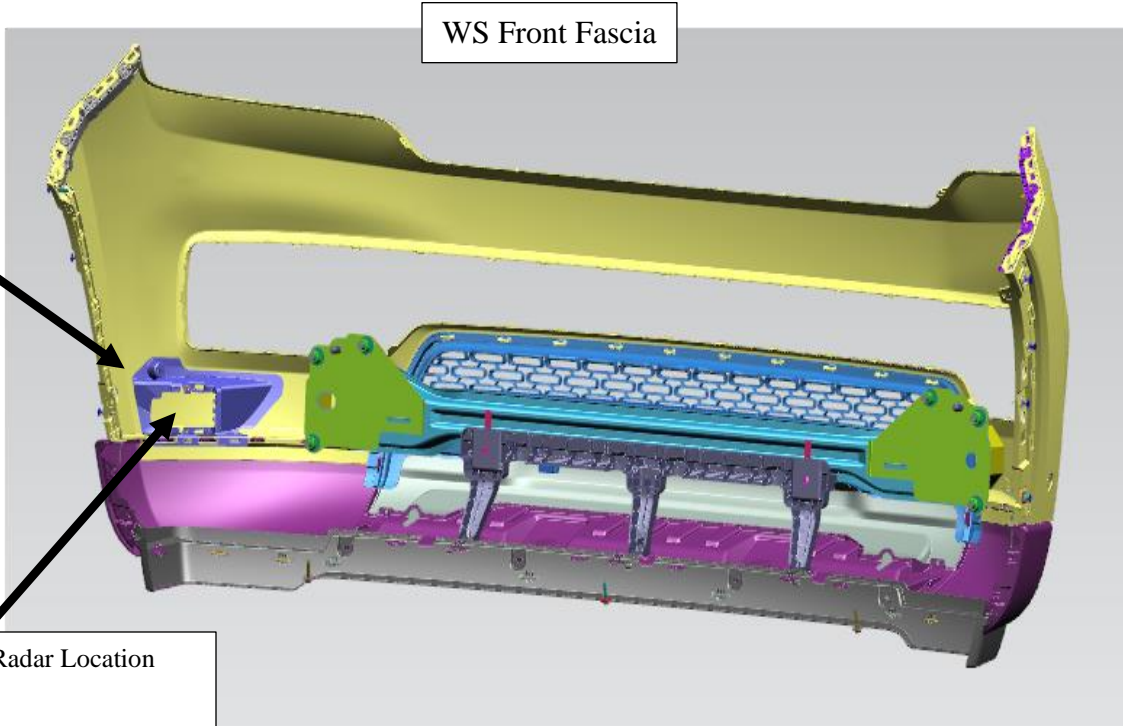

Fig 4
3. The front fascia (Figure 4, and 5) may be damaged, or warped (Front mid-range radars).